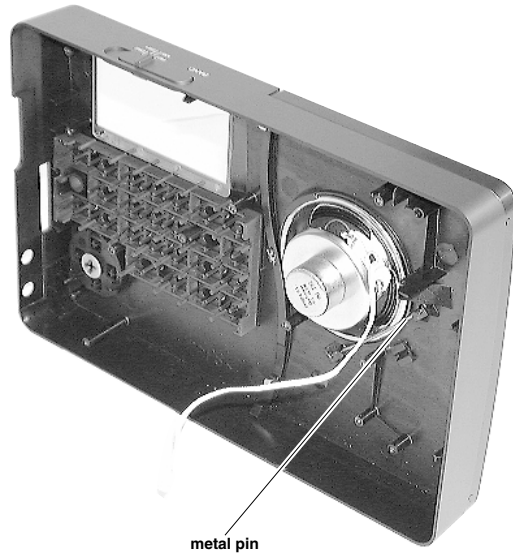

Fig. 6
- (1) Remove 4 screws ⑪ from the Main Board.
5. Removal of Speaker (Fig. 6)